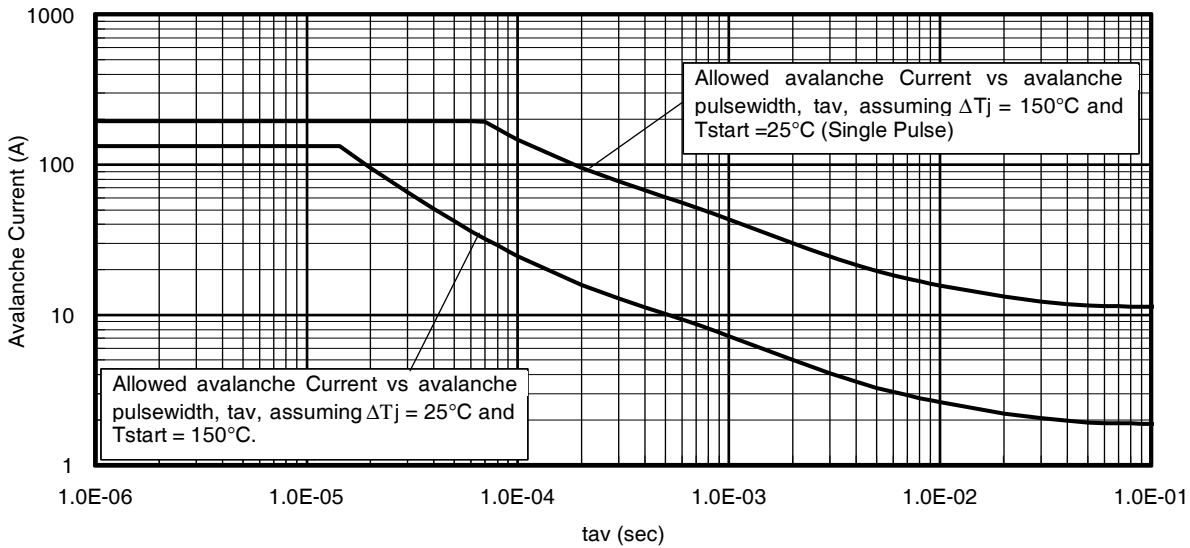

Fig 14. Avalanche Current vs. Pulse width
Notes on Repetitive Avalanche Curves , Figures 14, 15:
7. ΔT = Allowable rise in junction temperature, not to exceed T_{jmax} (assumed as 25°C in Figure 14, 15).